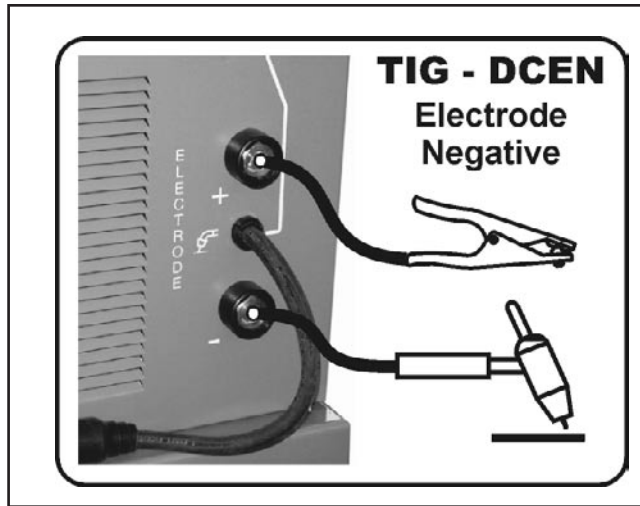

Figure 20 - TIG Polarity Connection
Step 2. Be sure to set the polarity to DCEN (Electrode Negative) by placing the Heliarc Torch in the Negative connection terminal on the front of the power source as shown in Figure 20.
Step 3. Place the WELD PROCESS ① switch in the TIG (left) position.